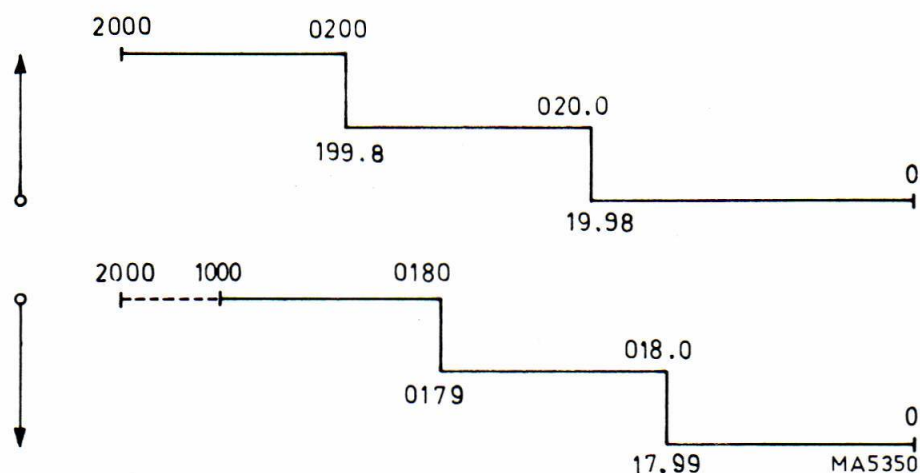

Fig. 50. Checking the range selection
- 6.1.7. Slowly reduce the voltage. At 0180 mV the reading will change from 0179 to e.g. 179.9 (Fig. 50).